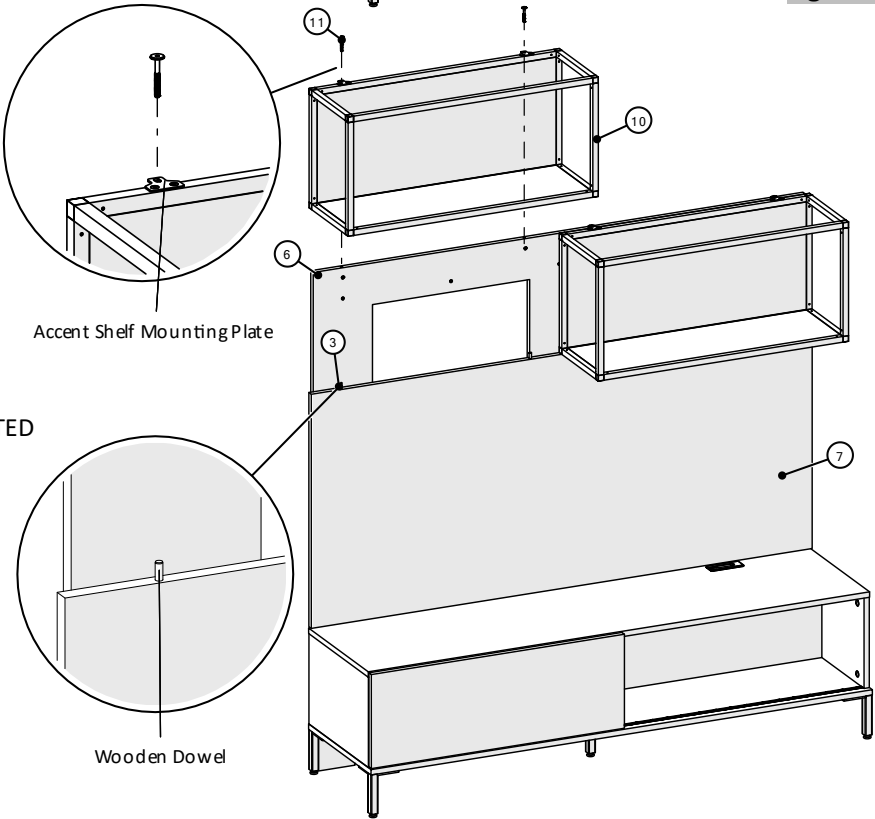

Figure 11
- Insert the 1/4-20 x 50mm JCB Bolts into holes of Accent Shelf Mounting Plate and tighten, (Figure 11).